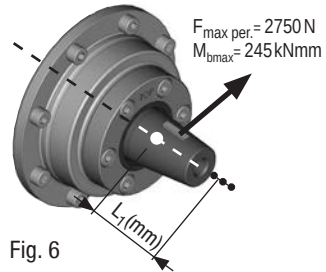

Fig. 6
- The engagement force applied by the belt tension (centre of shaft taper, see Fig. 6) must not exceed $F_{\text{max per.}} = 2750 \text{ N}$.
- If the force engagement point shifts to the right (see Fig. 6, small point), the force $F_{\text{max per.}}$ reduces as per the following formula: